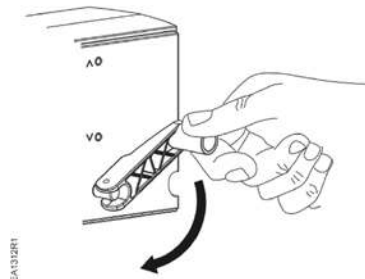

Figure 9.
- Push the crank arm until it is parallel with the actuator, then turn the crank arm in the proper direction to engage the actuator stem connection with the valve stem. See Figure 9.